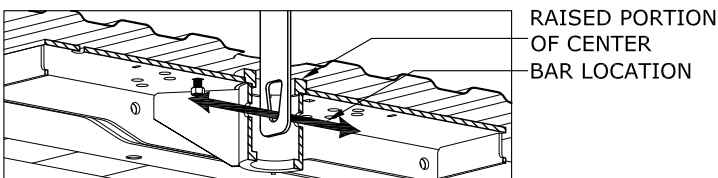

FIGURE B8: Cutaway of center section and truck bed.
5. **Lift Center.** If using a lifting device, anchor it to the center section using the holes in the socket receiver and a bar as shown in figure B8. Pull center section toward bed of truck. Guide the raised portion of the center through the 4" hole in the truck bed and pull the center tight against the floor of the bed.